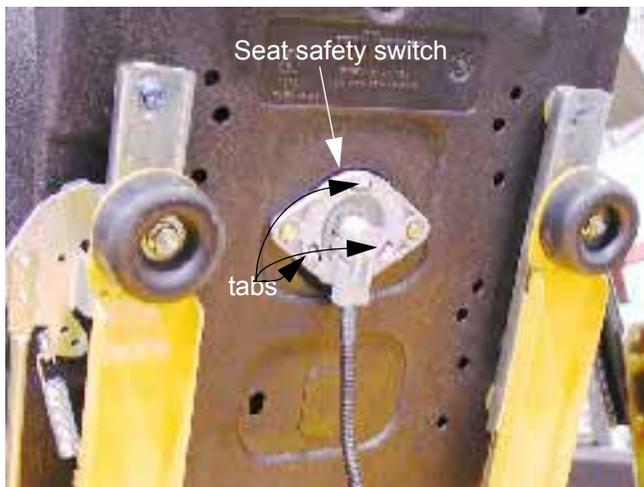

Figure 6.17
- 6.17. Temporarily disable the seat safety switch. Because the plug has a double-safety, simply unplugging the switch has no effect. Applying pressure to the part of the seat normally occupied by the operator's gluteus maximus will extend the three tabs. Clamping one of those tabs with a pair of alligator clips or a similar tool will hold the switch in the actuated position. See Figure 6.17.